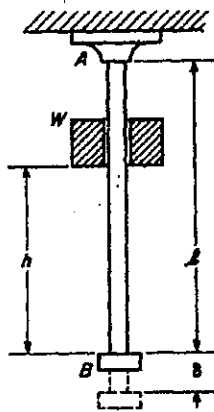

Fig.2(a)
- (b) For the simple structure shown in Fig. 2(b), member BC is a steel wire having diameter  $d = 3$  mm and member AB is a wood strut of 2.5cm-square cross-section. Calculate the horizontal and vertical components of the displacement of point B due to a vertical load  $P = 200$  kg acting as shown. For steel,  $E_s = 2 \times 10^6$  kg/cm2 for wood,  $E_w = 10 \times 10^4$  kg/cm2.